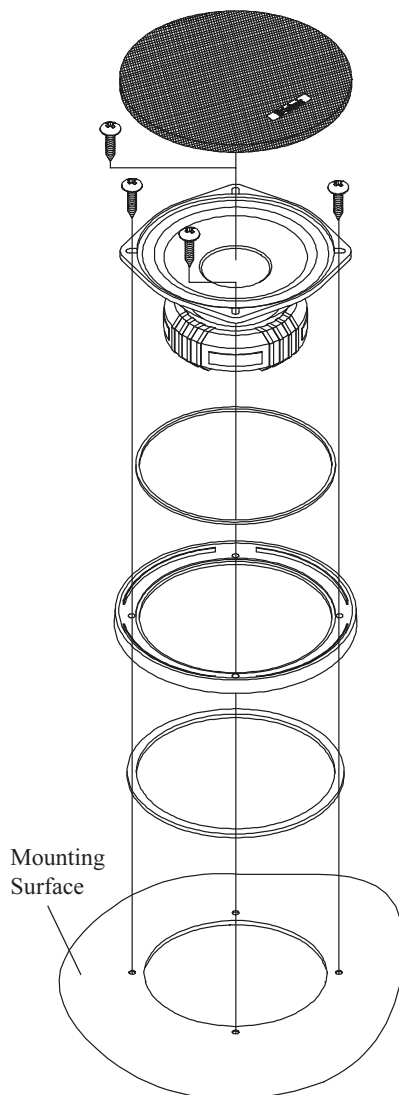

Figure 1
3. Place the narrow foam ring gasket in the matching groove of the plastic mounting ring. Refer to figure 1.